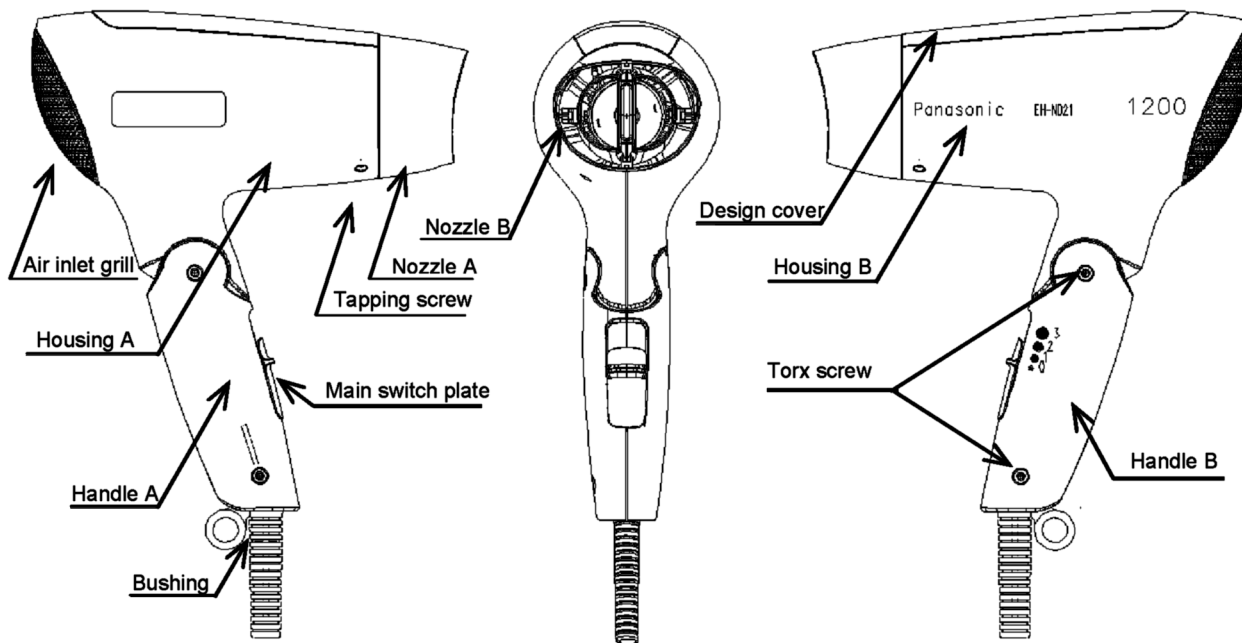

Figure 17
6. Assembly handle A , screw and nozzle A,B as shown figure 17.